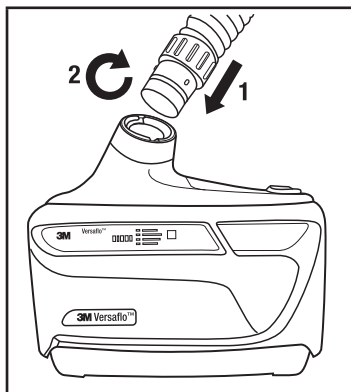

Fig. 13 – Installing breathing tube
1. Insert the end of the breathing tube with the bayonet fitting (two small prongs) into the parallel slots in the air outlet of the motor/blower (Fig. 13).